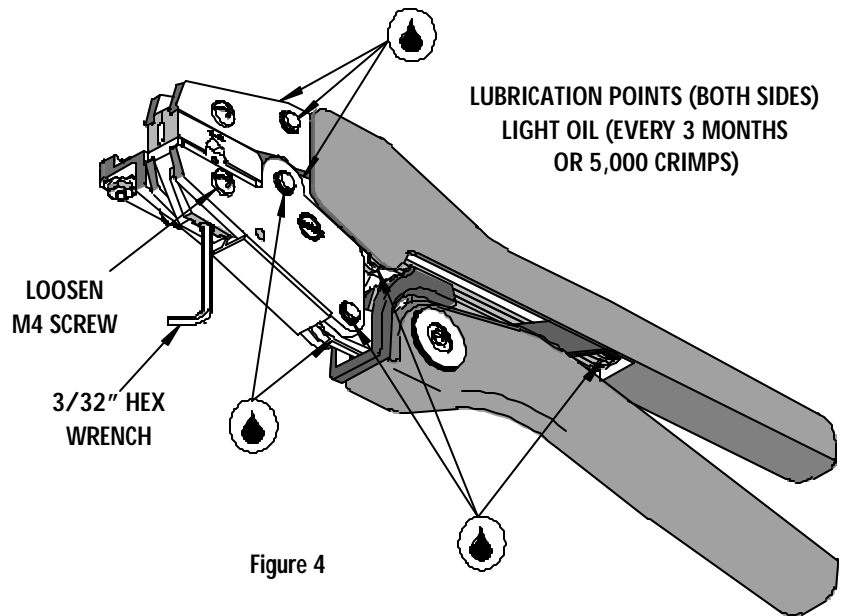

Figure 4
6. If the insulation part of the crimp needs to be adjusted, first loosen the M4 screw on the bottom tool jaw, then insert a 3/32 hex wrench (supplied) into the bottom of the lower die (See Figure 4). A clockwise (CW) rotation decreases insulation crimp while a counter-clockwise (CCW) rotation increases insulation crimp. After adjusting retighten the M4 screw.
3. Make certain all pins, pivot points and bearing surfaces are protected with a thin coat of high quality machine oil. Do not oil excessively. The 64001-0800 (RHT-5760) was engineered for durability, but like any fine piece of equipment it needs cleaning and lubrication for a maximum service life of trouble-free crimping. A light oil, such as 30 weight automotive oil used at the oil points shown in Figure 4, every 5,000 crimps or 3 months will significantly enhance the tool life and ensure a stable calibration.